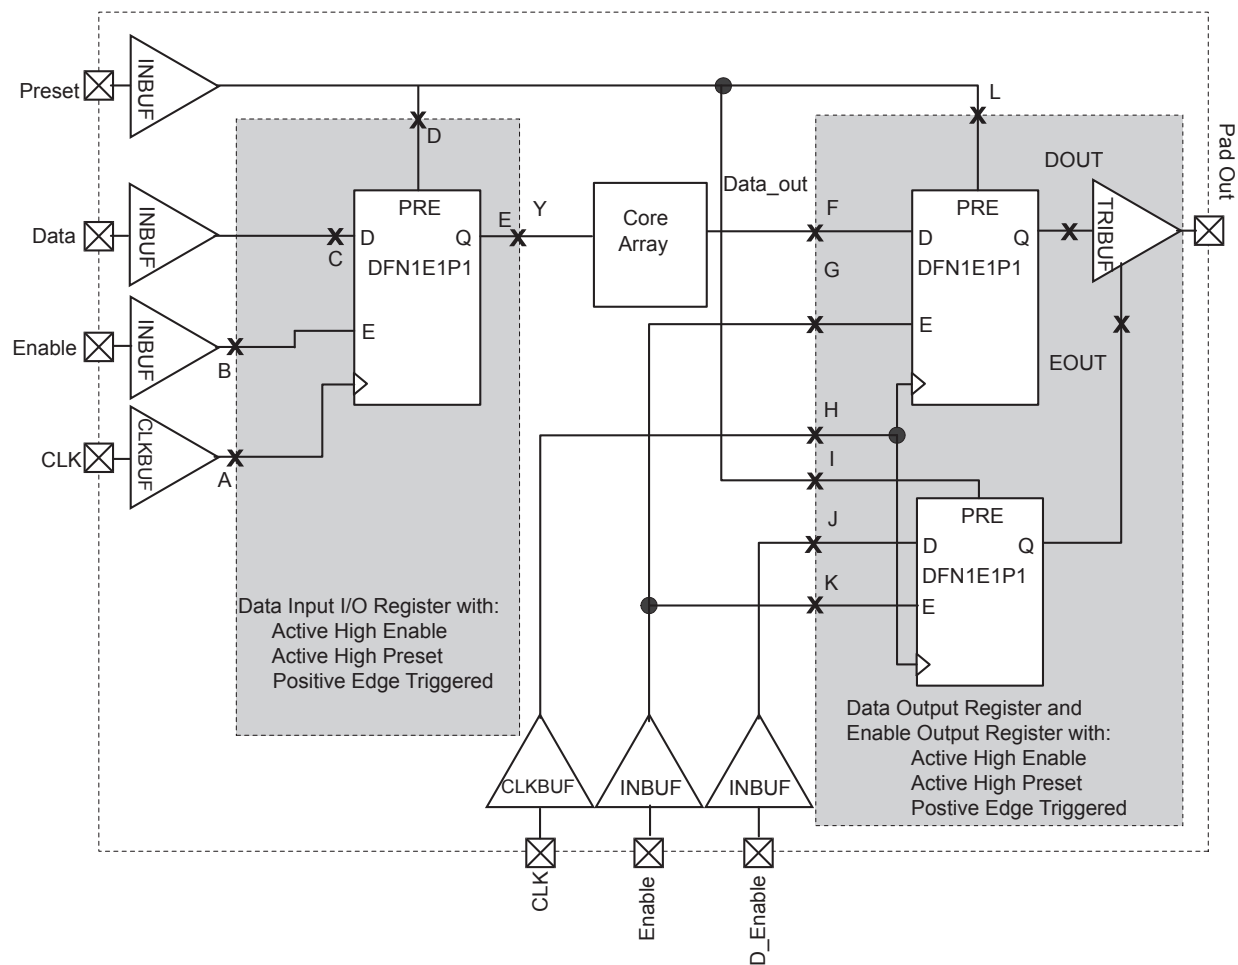

Figure 2-137 • Timing Model of Registered I/O Buffers with Synchronous Enable and Asynchronous Preset
*Note:* \*See Figure 2-137 on page 2-212 for more information.